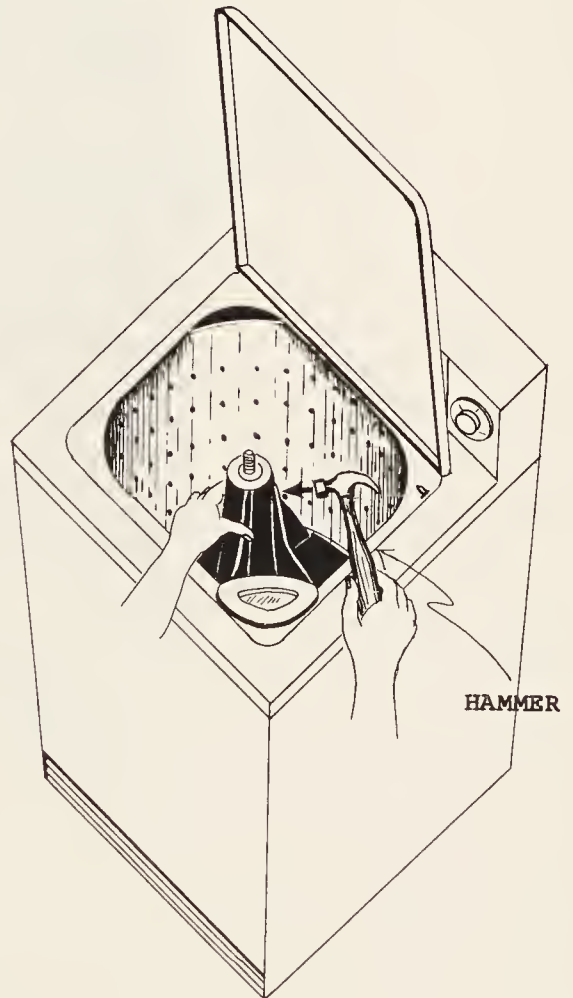

FIG. 3
4. Grasp the agitator with both hands along its bottom and pull up sharply to remove it. (*Figure 3*)